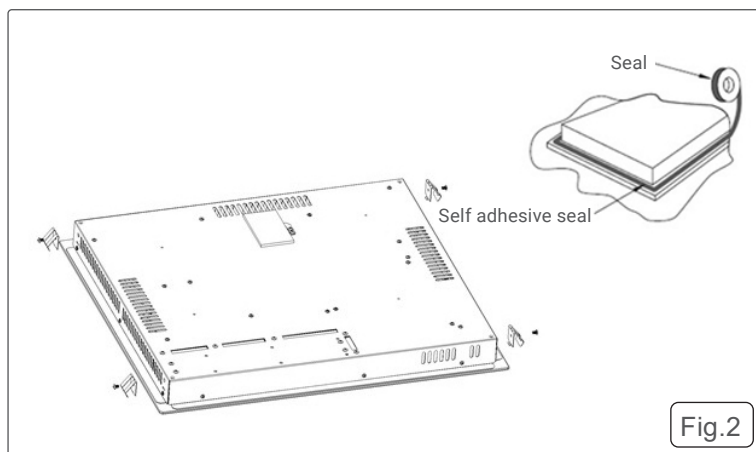

Fig.2
## • POSITIONING THE APPLIANCE SEE FIG.1 & FIG.2
- Ensure the work surface is level and square, and that no part interferes with the space required for installation. Place a towel or cloth on the work surface and carefully position the hob face down on the protected surface. Apply the sealing strip supplied with the hob, which is used to seal it onto the work surface. Fig.2. Do not use silicone. Apply the seal around the edge of the base of the hob, leaving approximately 3 mm from the edge of the glass. Ensure the seal runs around the entire circumference, then cut off any excess and bring the two ends of the seal together so they meet neatly. Fix the brackets to the front and rear sides of the hob using the screws provided. Fig.2. Place the hob into the cut-out in the cabinet and ensure it is centred correctly. Make sure the front edge of the hob is parallel with the side edge of the work surface.